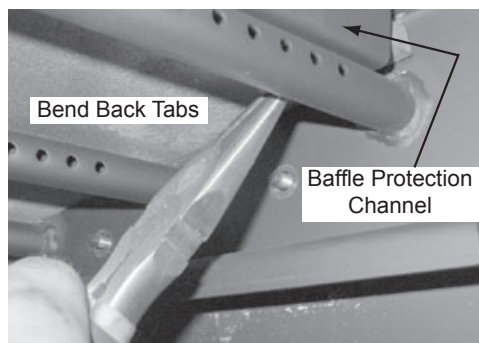

Fig. 25.1
2. Remove the baffle protection channel by bending back the tabs using needle nose pliers located at the right and left side of the protection cover. Lift the cover up slightly and pull toward the front and out of the firebox. **Figure 25.1.**